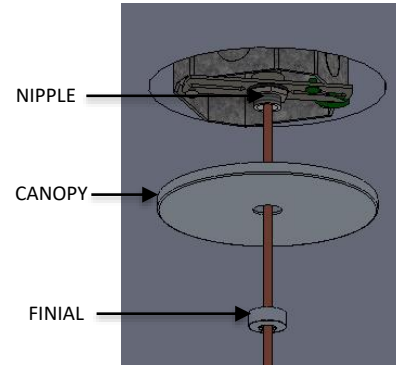

FIG. 20 – FINIAL ASSEMBLY
7. Raise CANOPY and secure to ceiling by threading the FINIAL to the NIPPLE (available in MOUNTING BRACKET ASSEMBLY) as shown below in FIG. 20.
1. Strip off 1.00" of outer clear insulation exposing the outer metal braiding as shown in FIG. 19 below. **Be careful not to cut or damage the outer metal braiding.** Gently push braiding down to loosen the individual braids and pull to one side of inner wires. Locate the solid black plastic reinforcement piece (The thinner black wire that has no copper wires inside). Cut the metal braiding and thin black wire back to outer insulation as shown in FIG. 20 below.